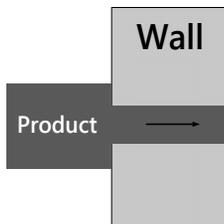

Figure 1. Schematic of the installation of the product.
- Drill a horizontal hole with a minimum diameter of ~3.25 in (~83 mm) into the installation surface wall as shown in **Figure 1**. You may add  $\pm 0.2$  in (~5 mm) tolerance to the hole diameter to account for insulation.